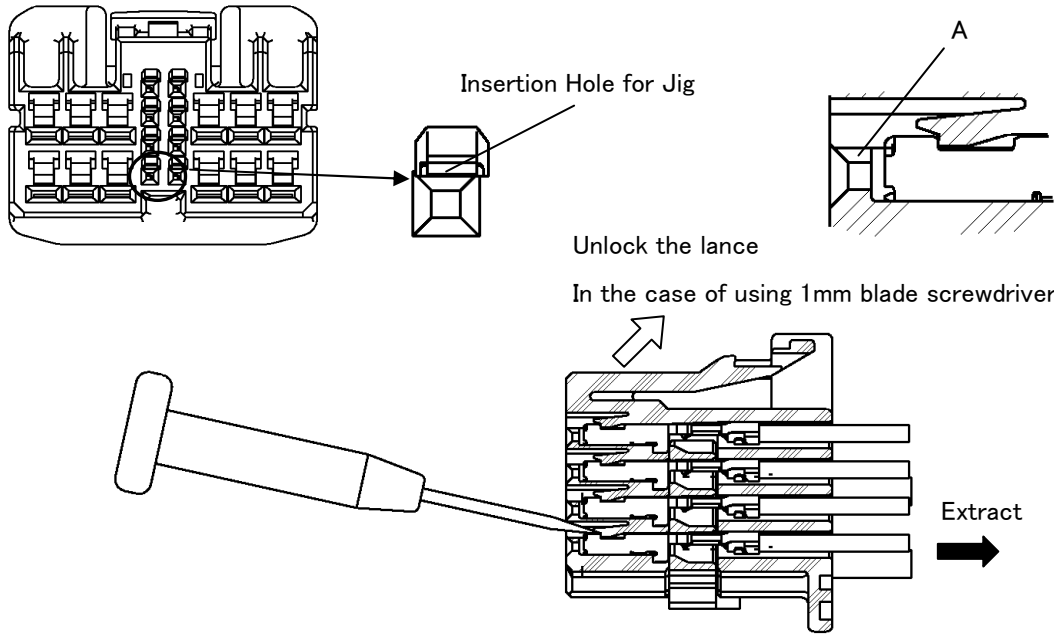

Fig.13
(1) Confirm the retainer is in pre-assembled condition. When the retainer is in final lock condition, it must be changed to pre-assembled condition. See para.6.3. The female contact cannot be extracted in final assembled condition.
(2) In the case of 0.64III Contact
- ① Insert the extraction tool for 0.64III Receptacle contact (P/N:1729375-1) Obey instruction sheet 411-78139. At this point, pull back the crimped wire lead and the contact can be removed. See Fig.13.
- ② In the case of using 1mm blade screwdriver, insert it into the proper hole and raise it gently just enough to unlock the lance. At this point, pull back the crimped wire lead and the contact can be removed. See Fig.13